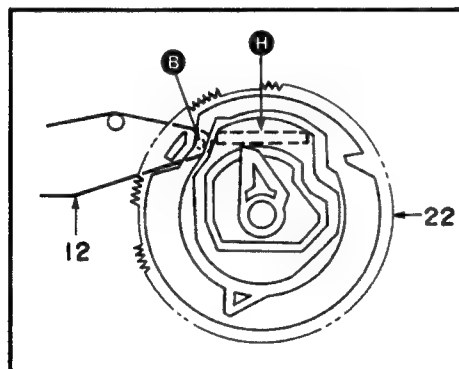

Fig. 13
2-11) The FD GEAR (22) is held in position of Fig. 13 by the pin (B) of the FD ARM, and the heads on the SUB-CHASSIS are held in the PLAY/REC position.